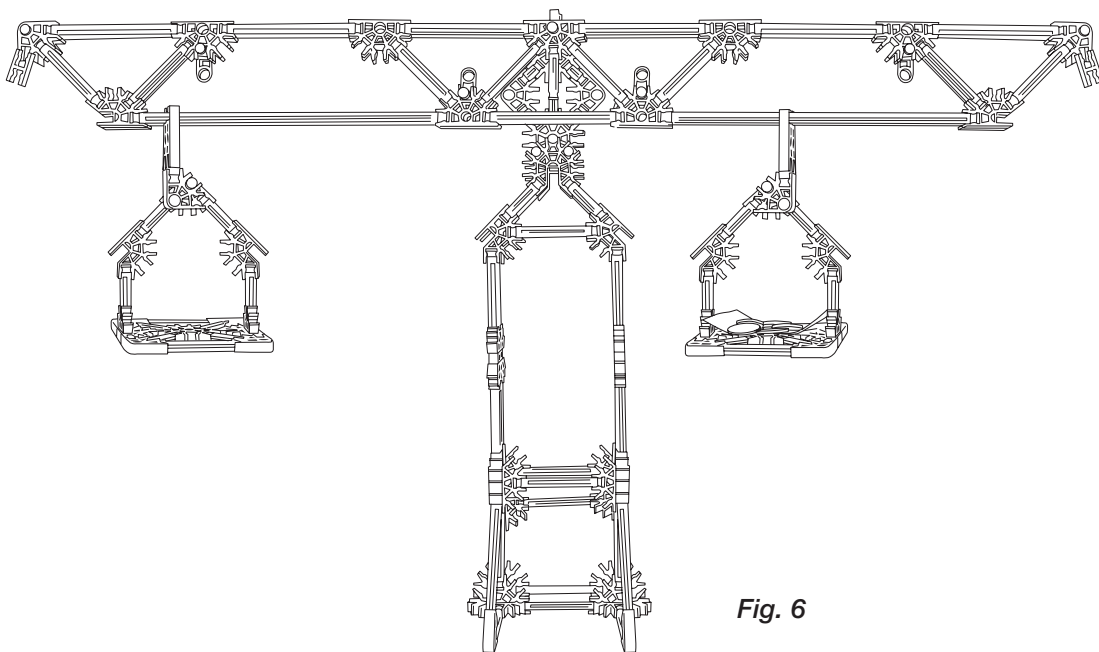

Fig. 6
3. Slide the **load** pan to a position, to the right of the fulcrum, which is **one half the distance** you measured for the effort pan in # 2 above. Record this distance on your worksheet. Add enough pennies to the **load** pan to balance the system. See *Fig. 6* below.